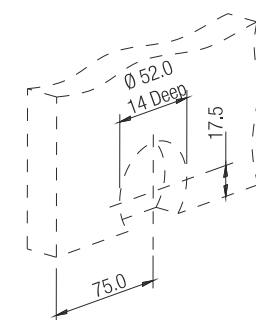

Fig. 5
4. Drill Ø52mm cavity 14mm deep on the bottom of the shutter as shown in Fig.5. & screw the Bottom guide.